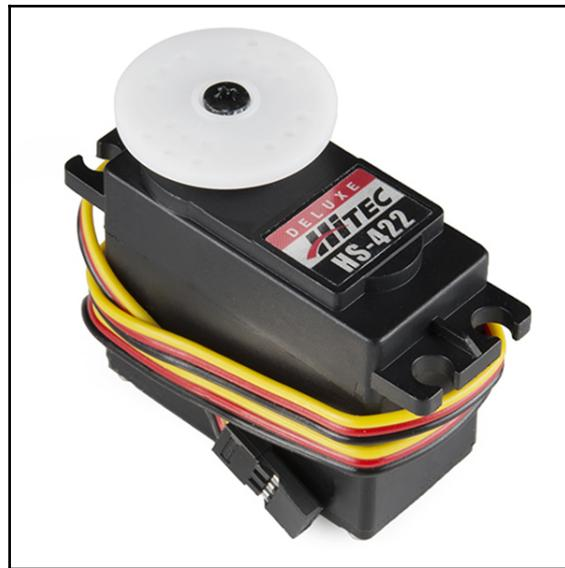

Figure 7.3: Servo - Hitec HS-422 (standard size). Image courtesy of SparkFun Electronics (<https://www.sparkfun.com>)
3. Take the Hitec HS-422 servo (*Figure 7.3*) and remove the circle horn by removing the screw using the Phillips-head screwdriver: